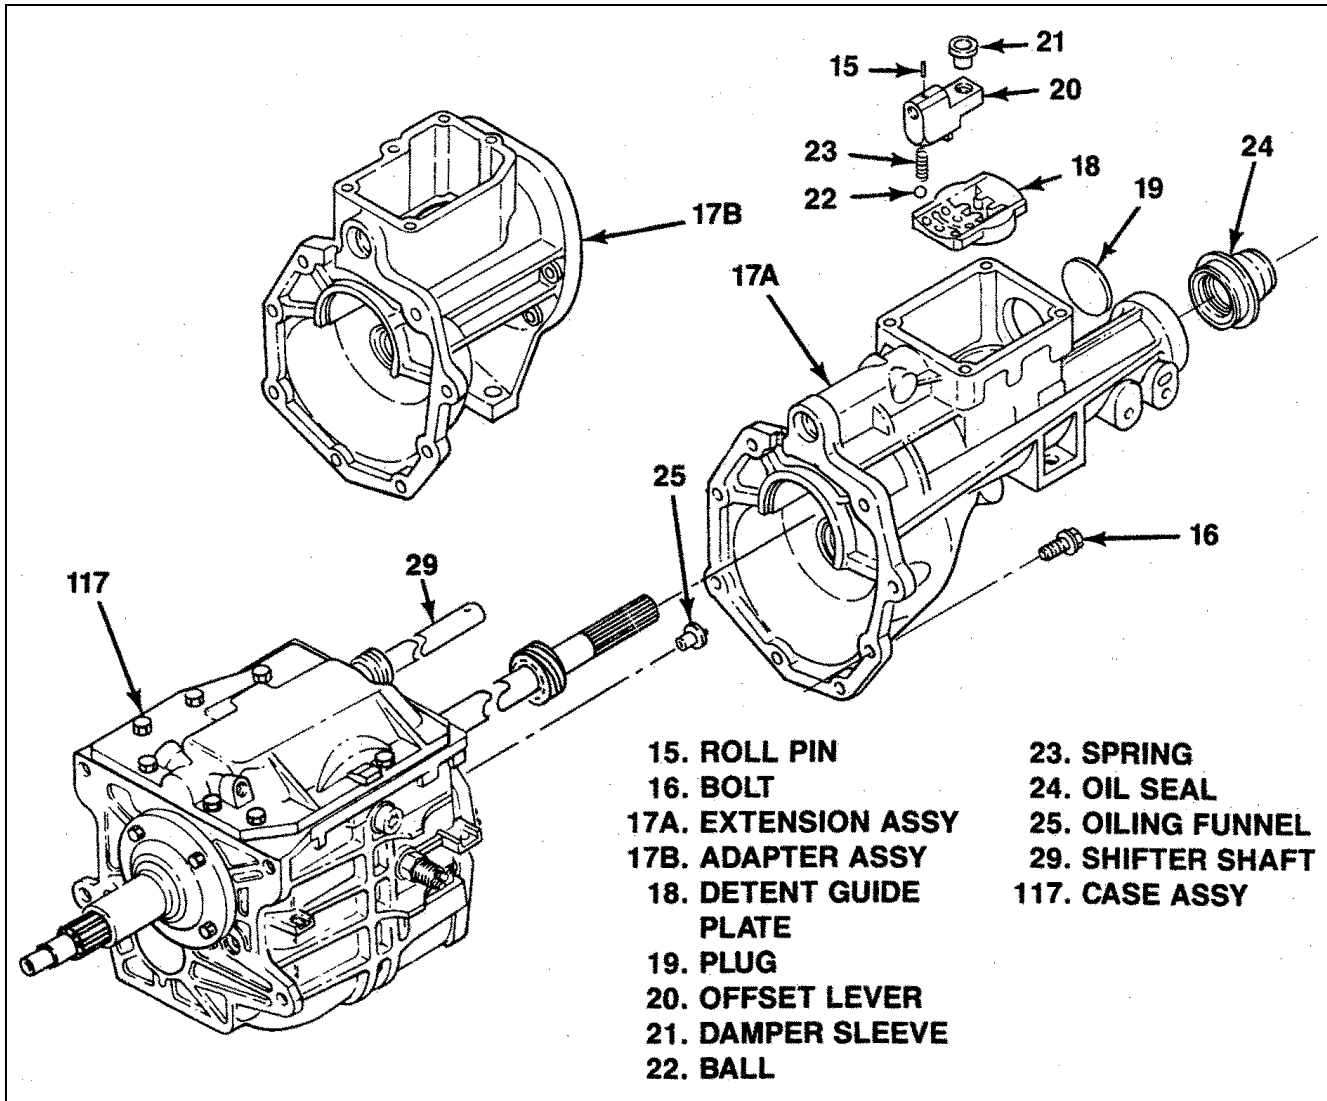

Figure 6-19. T5 WC Extension or Adapter
**6-18. INSTALLATION OF T5 WC EXTENSION OR ADAPTER.** With case cover installed, proceed as follows (see figure 6-19):
- a. Install o-rings (14) on speedo adapter (10). Insert oil seal (13) and speedo driving gear (12), then install pin (11).
- b. Install speedo adapter (10), with assembled parts, in transmission and attach with screw (9).
- c. If used, install harness retainer (8), pin (7) and neutral switch (6).
1. Install boot(4) if replaced.
3. Position control lever and housing assembly (3A, 3B, or 3C) on extension (17A) or adapter (17B) engaging inside end of lever in damper sleeve (21, figure 6-19) installed in offset lever (20, figure 6-19).
4. Install screws (2). If control lever and housing assembly (3C) is used, also install screws (2A). Torque all screws to 13 lb-ft (17 Nm).
- f. Install fill and drain plugs (1) and torque to 20 lb-ft (27 Nm).